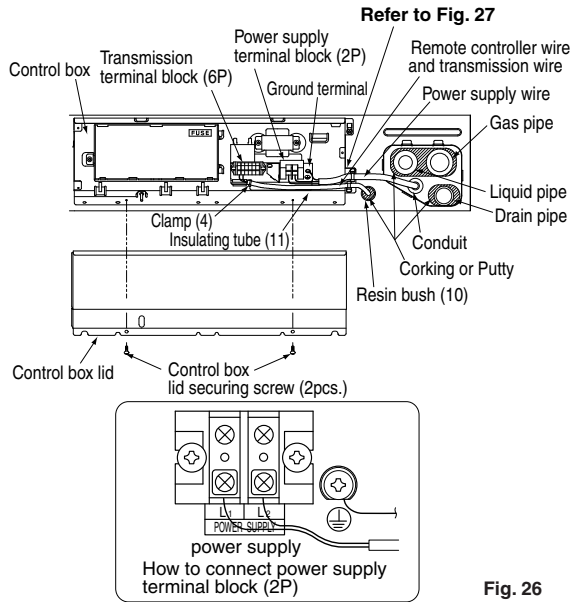

Fig. 26
<Method of wiring power supply, units and connecting remote controller wiring> (Refer to Fig. 26)
Holding the control box lid, loosen the 2 securing screws, remove the control box lid. Thread the remote controller wire and transmission wire through the insulating tube (11) and secure with the clamp (4), and cut off the insulating tube (11) to suitable length. Pull the wires inside through resin bush and connect the wires to the transmission terminal block (6P) inside the control box. After connecting, use the clamp (4) to bind the remote controller wire together with the transmission wire to the anchor. (Refer to Fig. 26, 27, 28)